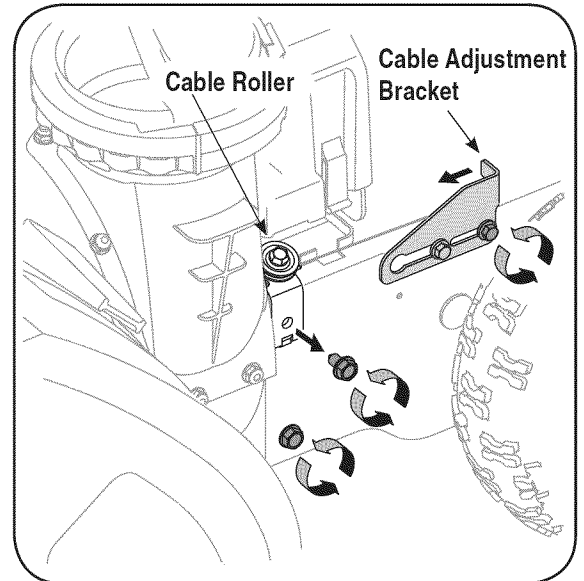

Figure 12
1. Loosen the rear hex bolt on the cable adjustment bracket. See Figure 12.
1. Loosen the rear screw on the auger cable adjustment bracket using a 3/8" wrench and slide the bracket all the way forward to provide maximum slack in the auger cable. See Figure 12.
3. Loosen the bottom auger housing mounting screw on each side one full turn using a 1/2" socket. See Figure 12.
NOTE: The top auger housing screw on the left side also secures the auger cable bracket and cable roller. Pay attention to its location and how it is positioned for reference during reassembly. See Figure 12.